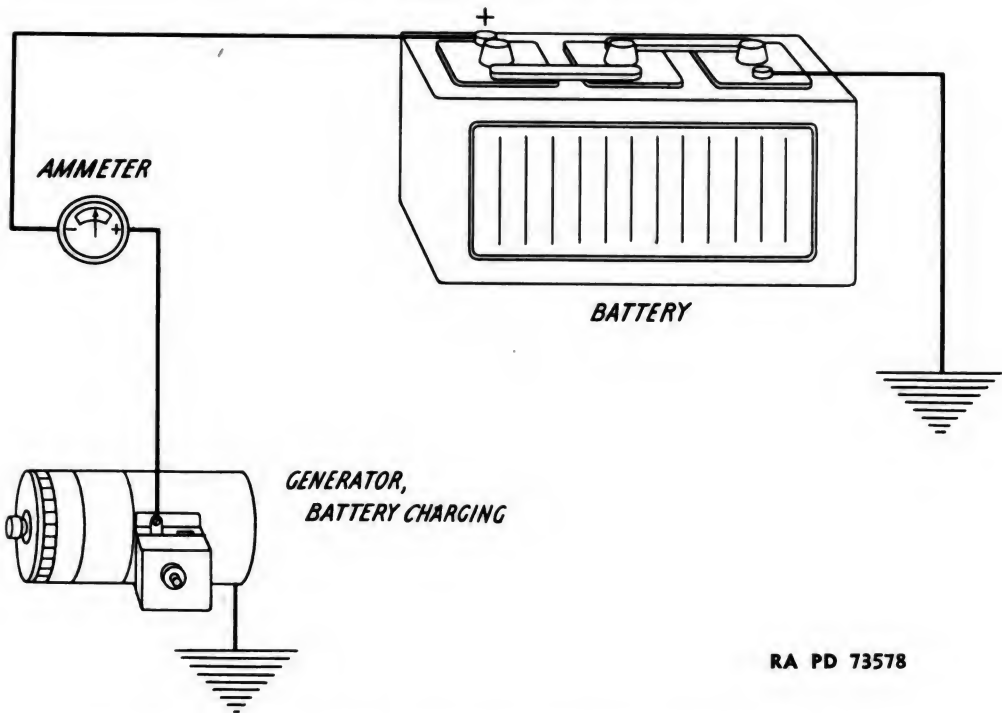

Figure 129 – Engine Electrical System – Generator Circuit
a. Battery-charging Generator Circuit (fig. 129).
(1) The battery-charging generator circuit consists of a generator, regulator, ammeter, battery, and connecting wires.